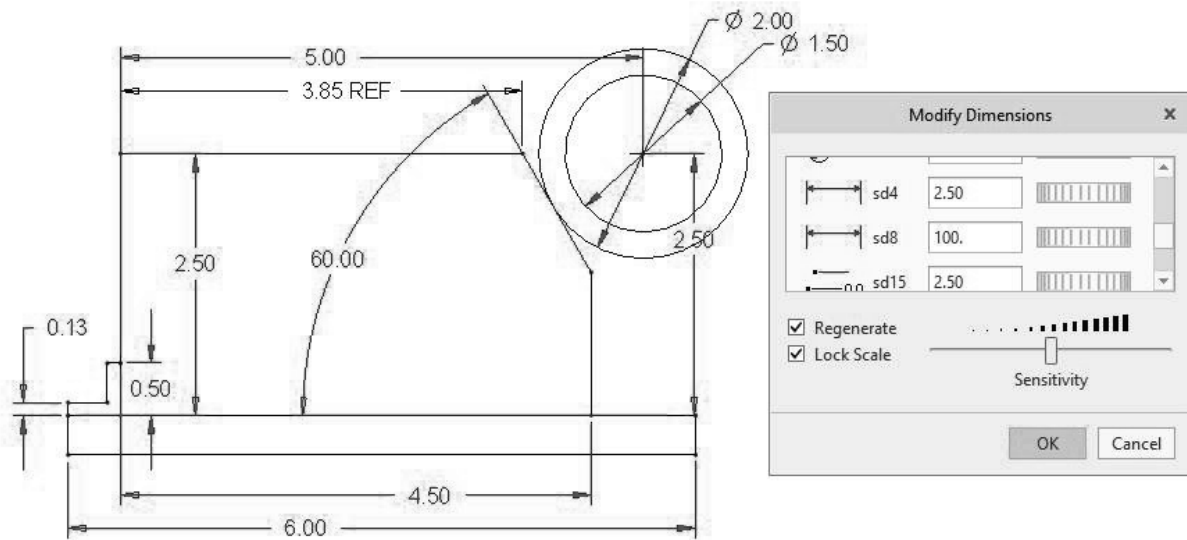

Figure 3-68 Scale All Dimensions
Step 42: *Check* the “Lock Scale” box, then type a value of 100 where there was previously a value of 5.00. See Figure 3-68. *Pick* **OK** to update the entire sketch. (Be sure to *check* the **Lock Scale** box before changing the dimension to 100.) Use the **Refit** tool to refit the jig to the screen.